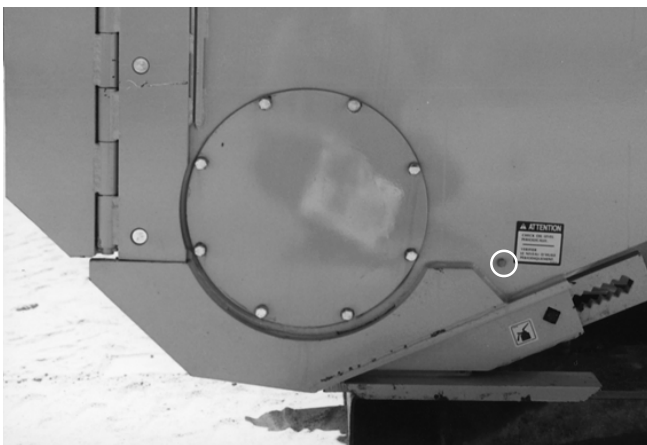

Figure 21
- 8) Check oil level in auger drive chain box (Fig. 21). Fill to level of plug. Use SAE 80W90 oil.